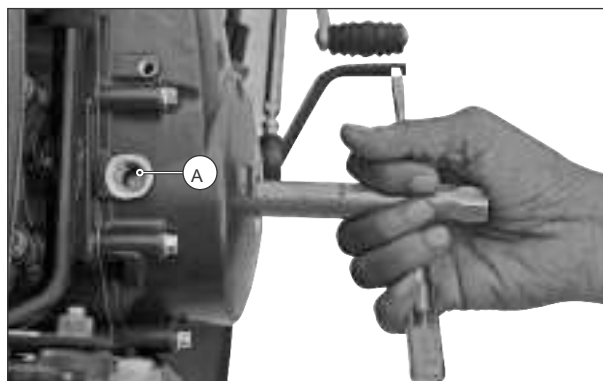

Fig. 2.51
- Align the TDC mark (A) on rotor assembly with centre of the inspection hole provided in the cover magneto by rotating the rotor assembly. (Fig. 2.51)